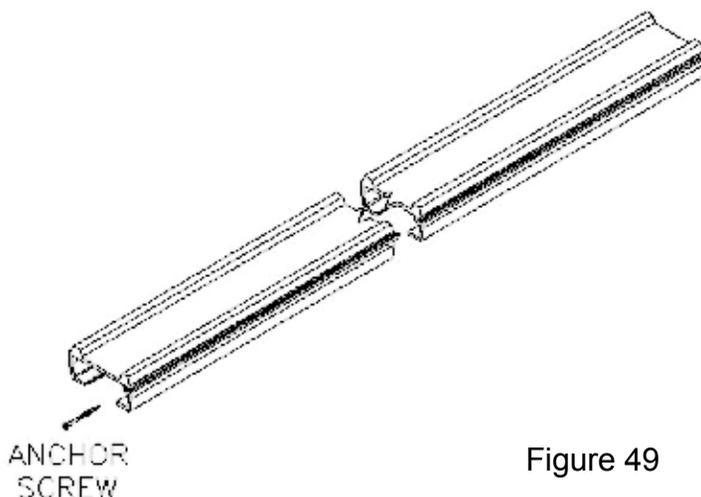

Figure 49
F. Pull the seal flush with the end of the slat. Apply adhesive to the anchor screw. Install the anchor screw (Figure 49). Do not tighten the anchor screw too tightly. Allow the adhesive to dry before installing the slat.